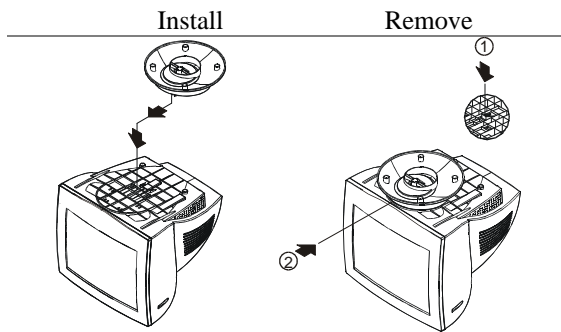

Figure 1 Installing and Removing the Swivel Base
- ? Carefully turn the monitor on its side or upside down. ( see figure 1 )